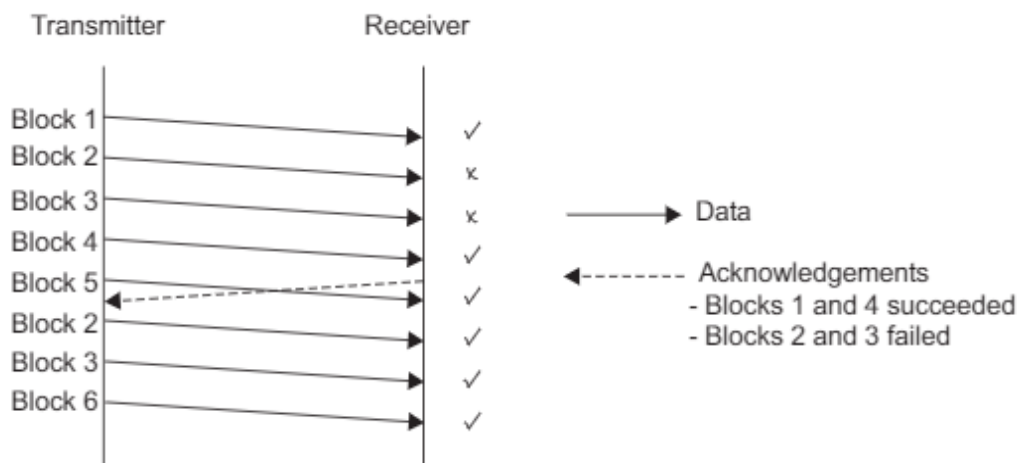

Fig 4.23: Operation of a selective re-transmission ARQ scheme
- Normally, ARQ uses a technique called selective re-transmission Fig 4.23 in which the receiver waits for several blocks of data to arrive before acknowledging them all.